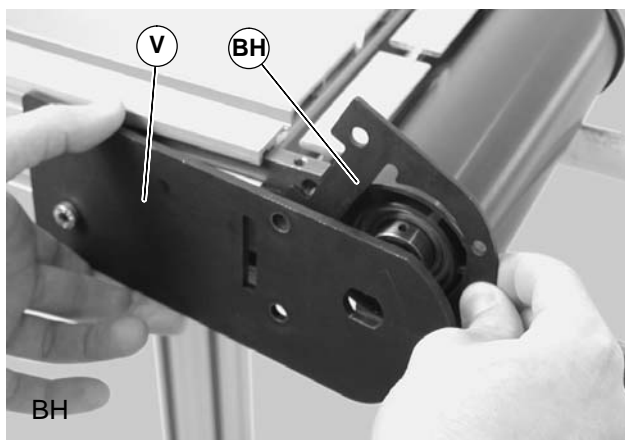

Figure 45
3. Pull back the outer headplate (V of Figure 45) and remove the inner spacer (BH).